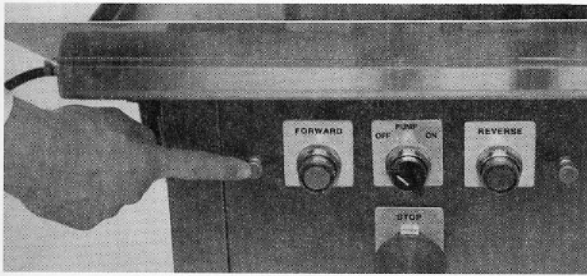

Fig. 11
3. Press and hold in the Dresser Button next to the Direction Button that is on (see fig. 11). This cycles the Dresser Assembly to the CENTER. CAUTION: DO NOT Dress grinding wheels in this direction.
Press and HOLD IN the Left Dresser Button next to the Forward Button (see fig. 11). This cycles the Dresser Assembly to the CENTER.